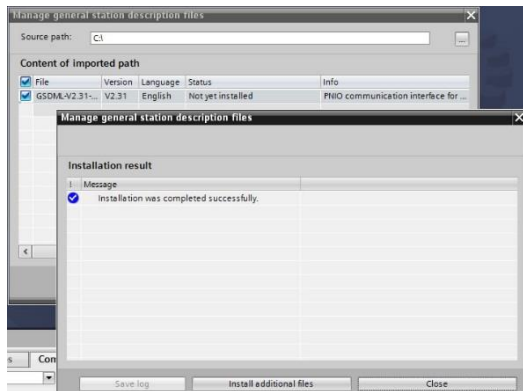

Figure 64: Successfully Installed GSDML File
2. Locate and select the GSDML file and click the **Install** button. Confirm that the installation was completed successfully as shown in Figure 64 and click the **Close** button. It is recommended to use the latest GSDML file, which is available via the product web page on the internet.